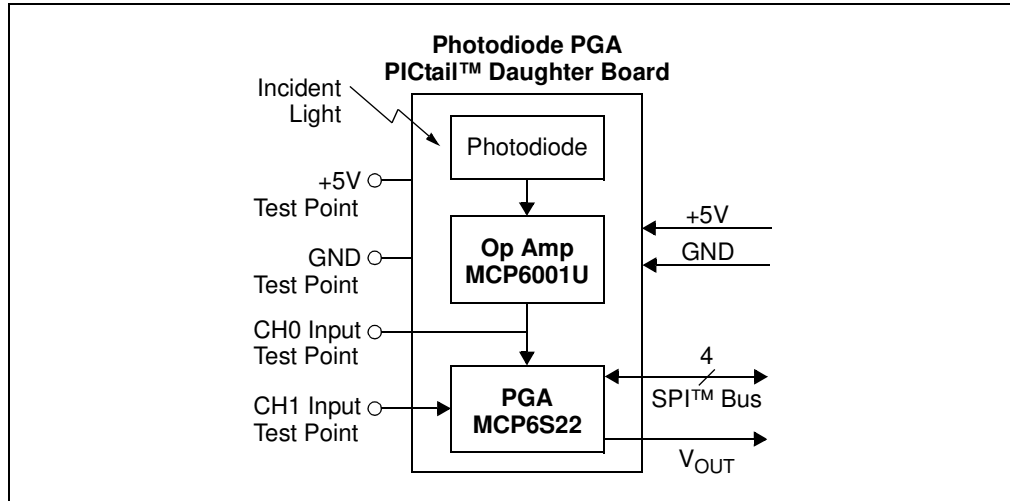

FIGURE 1-1: Photodiode PGA PICtail™ Daughter Board Block Diagram.
The Photodiode PGA PICTail™ Daughter Board contains the analog circuitry represented in Figure 1-1. Light incident to the photodiode is converted to current. The op amp converts current to voltage (transimpedance amplifier). This voltage is sent to the CH0 input of the PGA. The PGA gains and buffers this output, which is sent off-board (V_{OUT}). Board power is applied at the +5V and GND inputs. The SPI™ bus makes it possible to control the PGA; its gain and input channel can be set as desired from the software.
3. Select the desired PGA input. Usually the selection will be CH0 for the photo-diode output, but it can be CH1 when another input source is provided at the CH1 test point (Figure 1-1).